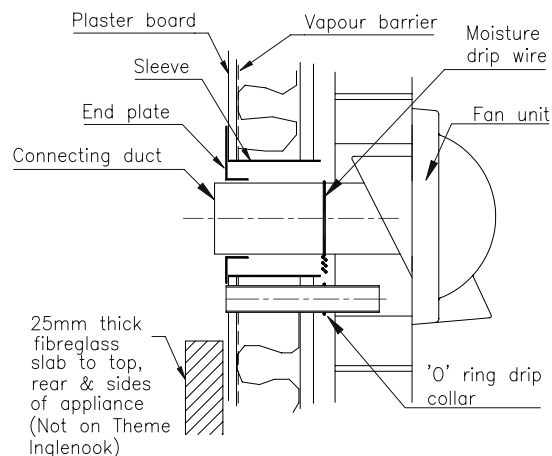

Fig. 5 Timber framed cut out
9. Push the endplate into position. (See Fig. 5)